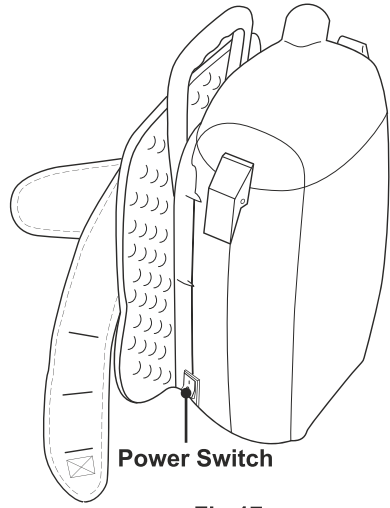

Fig 17
4. Turn the unit on by pressing the switch located near the base of the unit to turn the vacuum cleaner on. (Fig.17)